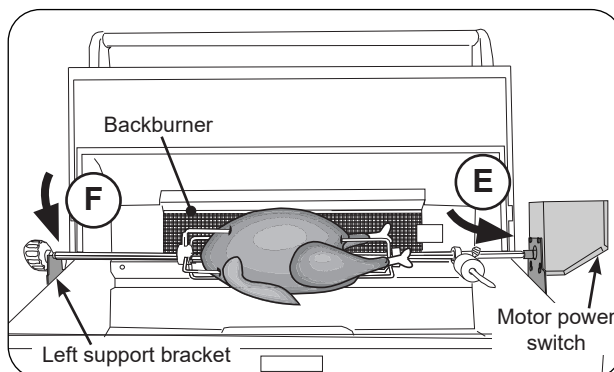

Fig. 42-4 Attach Rotisserie rod to motor
10. Insert the pointed-end of the rod into the motor drive socket (see Fig. 42-4, E). Then rest rod groove (next to the knob) into the left support bracket (see Fig. 42-4, F).